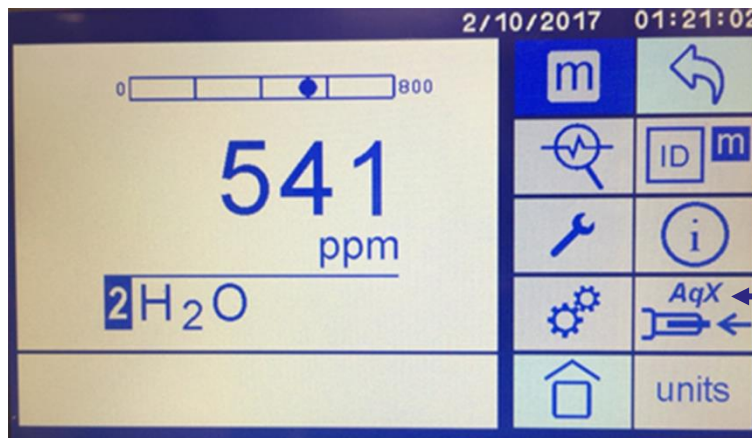

Figure K-9: Tip replacement icon
3. Press the tip replacement icon (Figure K-9).